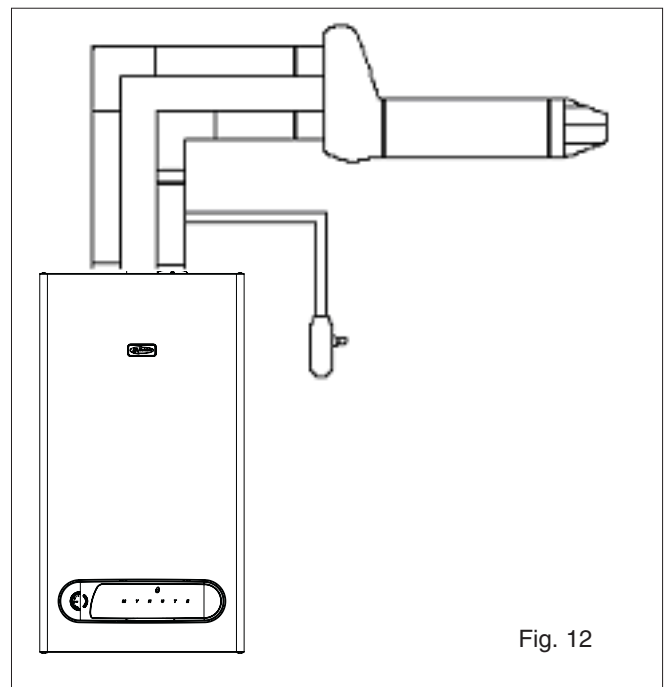

Fig. 12
4.5.3.3 HORIZONTAL TERMINATION (fig. 12)